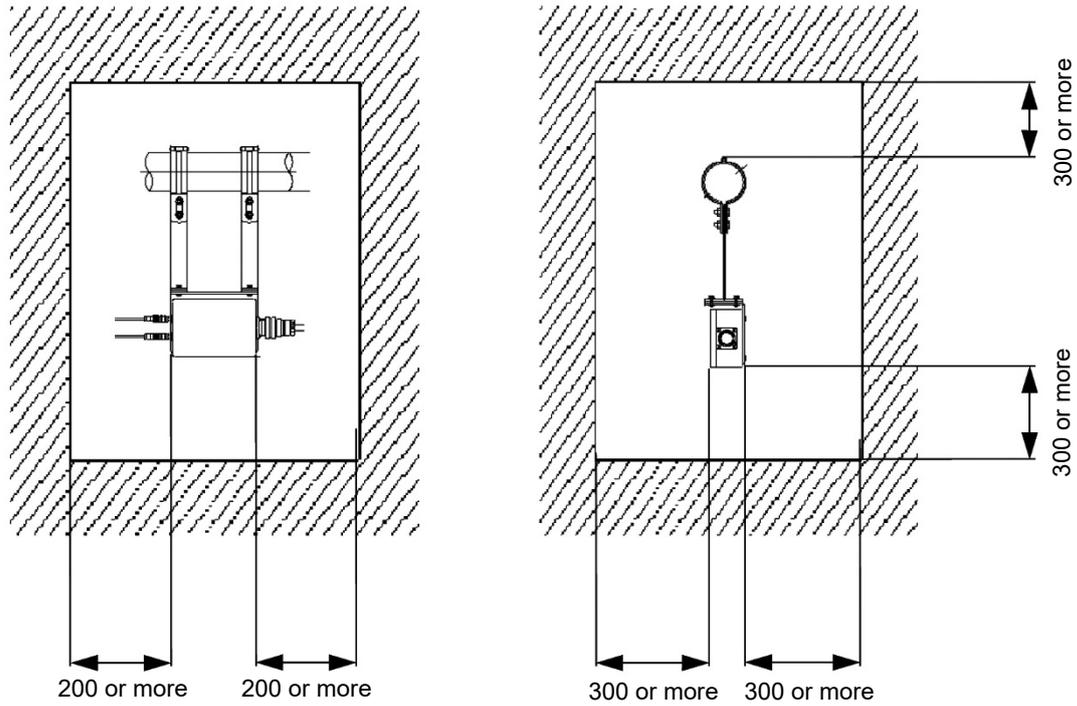
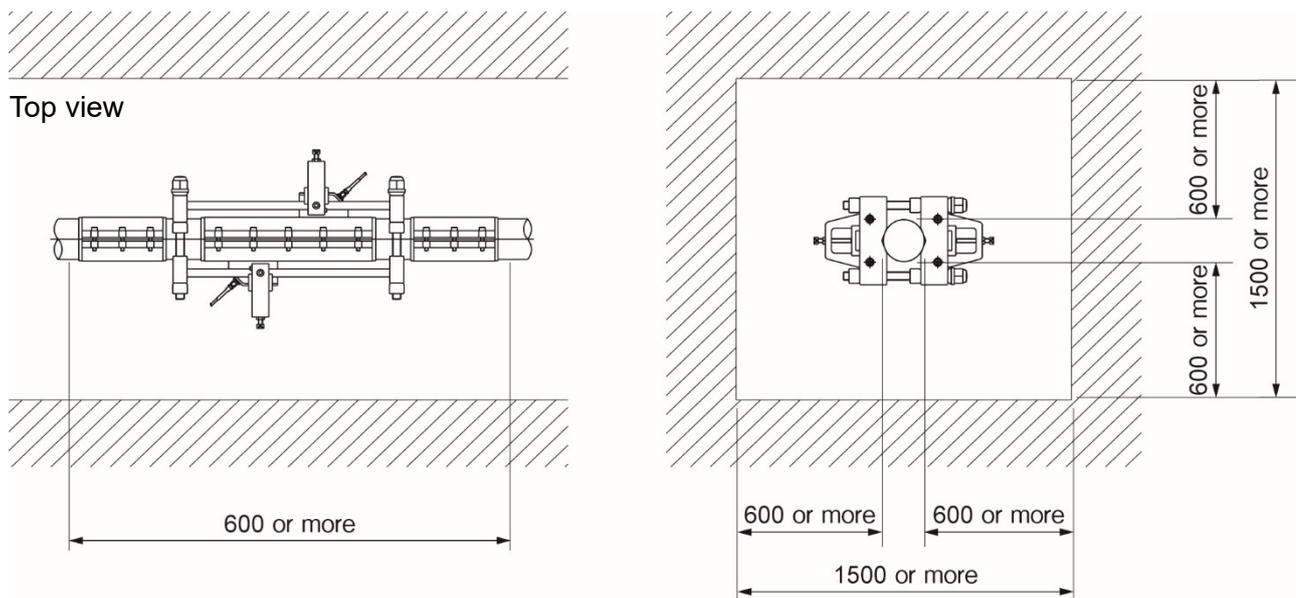

Fig. 3-2 Space required for pre-amplifier unit mounting location
Fig. 3-3 Space required for detector mounting location
- ① Location with straight pipe indicated in "3.2.1 Conditions on straight pipe"
- ② There should be a space for maintenance around the pipe to which the detector is to be mounted. (Refer to "Fig. 3-2 Fig. 3-3".)
- ③ The length of the sensor cable between the pre-amplifier unit and sensor unit is 2 m, and therefore the detector should be installed in such a way that connection is possible.
- ④ The drainage should be discharged with steam traps and the steam humidity should be small.
- ⑤ Avoid places with rapid pressure fluctuation of 0.1 MPaG or above in 10 seconds.